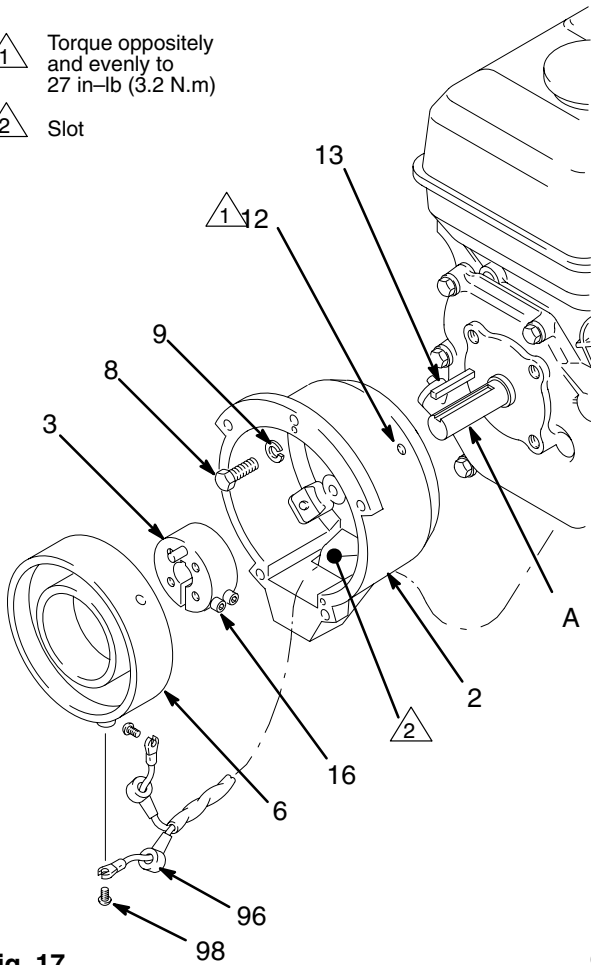

Fig. 17
1. Install the **clutch housing (2)**, capscrews (8) and lockwashers (9) on the engine. See Fig. 17.
2. Install the engine shaft **key (13)**. See Fig. 17.
4. Install the **field (6)** in the clutch housing (2). Working through the slot in the clutch housing, connect the wires of the harness (96) to the screws (98) in both places on the field. Pull the plastic caps (C) up and snap them over the screws. With the setscrew holes in the field and the clutch housing (2) aligned, tighten the setscrews (12) oppositely and evenly, to 27 in-lb (3.2 N.m). See Fig. 17.